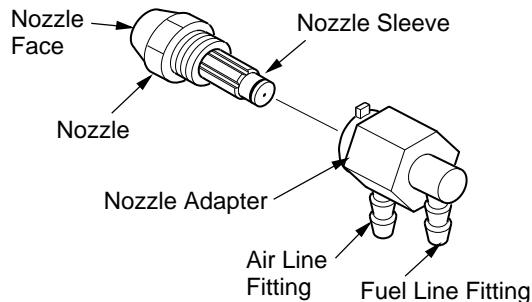

Figure 15 - Nozzle and Nozzle Adapter
6. Carefully remove nozzle from the nozzle adapter using 5/8" socket wrench (see Figure 15, page 10).
9. Replace nozzle into nozzle adapter until nozzle seats. Tighten 1/3 turn more using 5/8" socket wrench 40 to 45 in-lbs (4.5 to 5.1 N-m). See Figure 15, page 10.